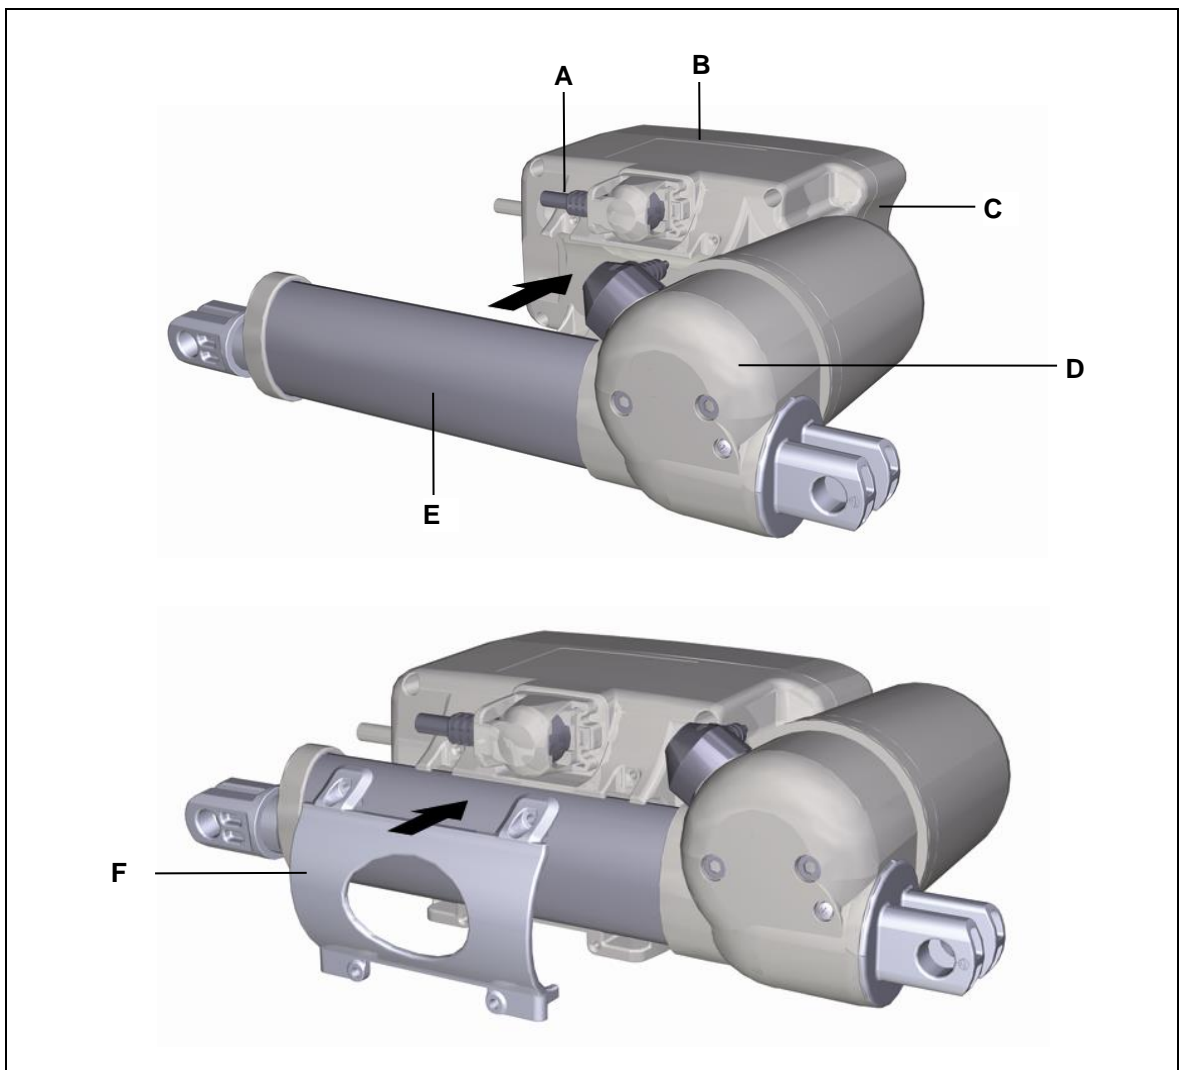

Figure 12 Fitting the MEGAMAT MCZ drive onto the MCL II control unit
- 1 Slide the MCZ drive's guide flange (E) into the mounting clip (F) so that the motor casing cover lies in the guide (C) as shown in Figure 12.
- 2 Screw the mounting clip (F) onto the MCL II control unit.